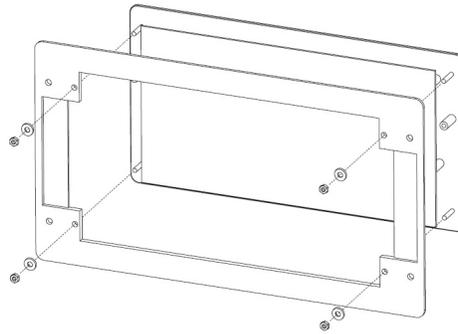

Figure 15
11. Insert and tighten the four lock washers and M3 nuts as shown in Figure 15.